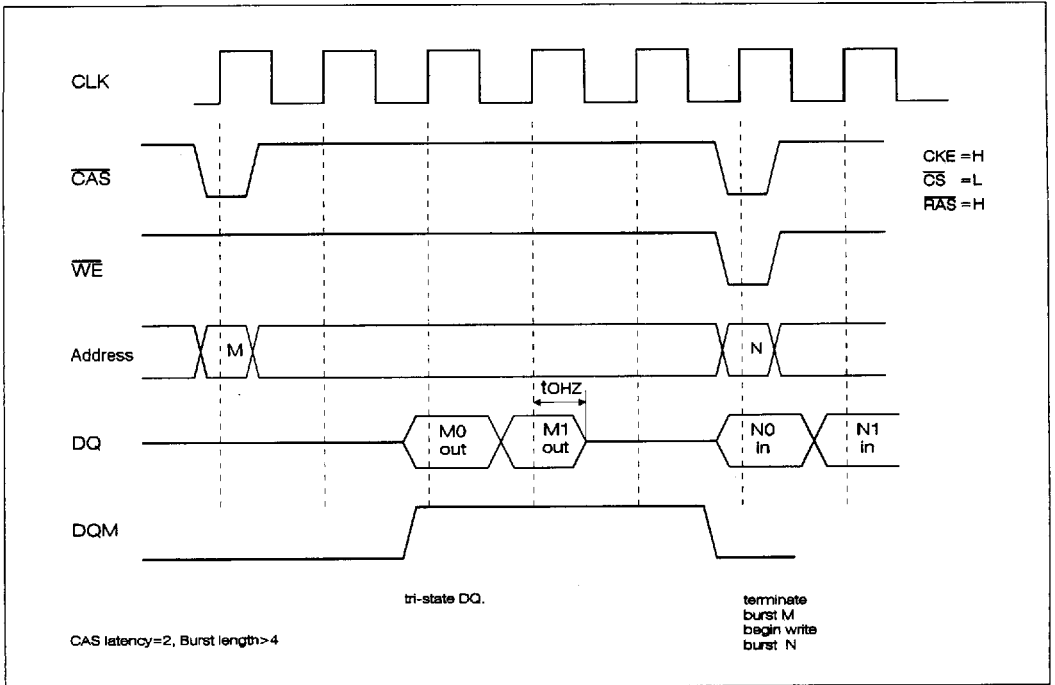

Figure 7. Timing of write initiation with read burst in progress.
3. Initiate a write command with or without Auto Precharge selected before the end of the burst and begin a write burst starting from another column address. The burst in progress is terminated and the first address of the new burst is initiated. Figure 7 illustrates the timing and control for this sequence. The appropriate DQM_i read/write byte enable signals must be asserted two clock cycles before the write command is issued (JEDEC specifies DQM latency is always two regardless of the \overline{CAS} latency. This needs further clarification from users.)